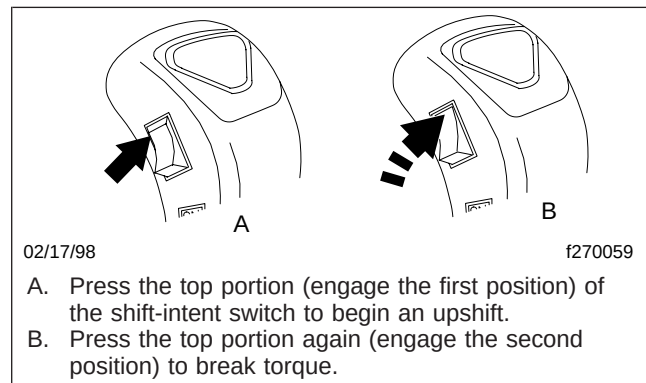
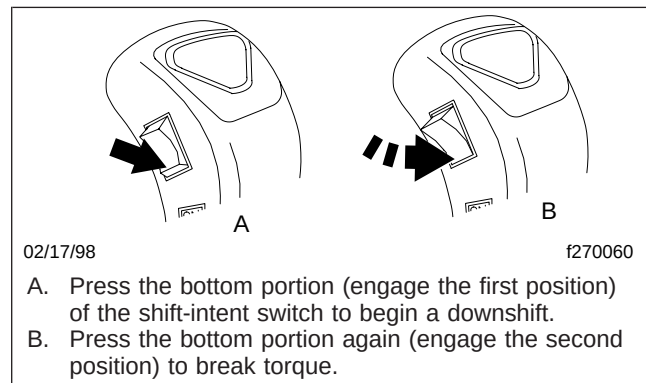

Fig. 8.30, ESS Upshifting Using the Shift-Intent Switch
Fig. 8.31, ESS Downshifting Using the Shift-Intent Switch
NOTE: If the system switch is OFF, use the shift-intent switch to select between ranges. Push the top of the switch (Fig. 8.30) to select the HI range on upshifts and the bottom of the switch (Fig. 8.31) to select the LO range on downshifts.
- 1.3 Press the top portion of the shift-intent switch again, far enough so that the switch goes into a second position inside the body of the shift handle. Then release the switch. See Fig. 8.30. This will break torque.
- 1.3 Press the bottom portion of the shift-intent switch again, far enough so that the switch goes into a second position inside the body of the shift knob. Then release the switch. See Fig. 8.31. This will break torque.